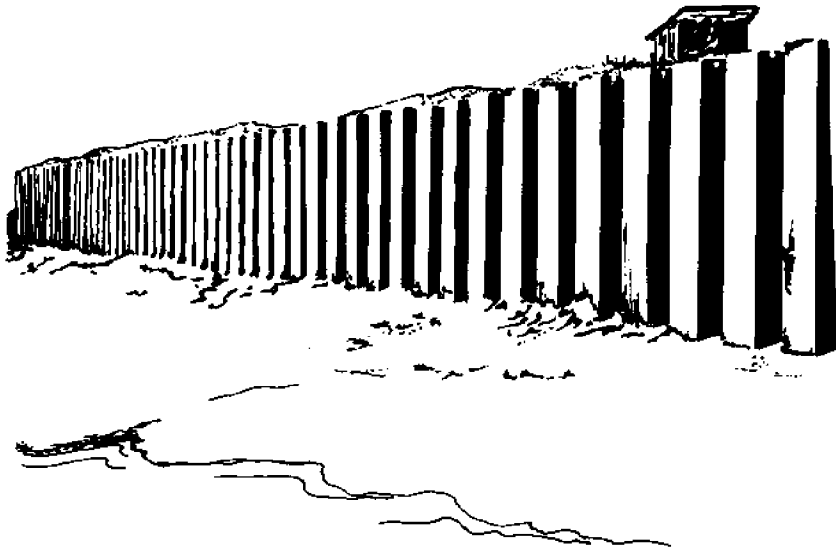

FIGURE 3: STEEL PILE BULKHEAD
**Bulkheads** help keep land from sliding into the water; they act as retaining walls (Figure 3). Bulkheads may also protect the backshore from wave and current attack, and may serve as a docking or mooring facility. Docks constructed in pilings, however, are much less expensive and more practical for this purpose than bulkheads.